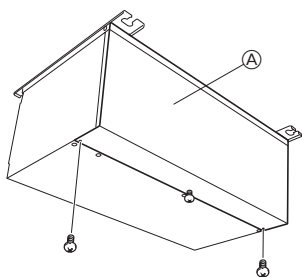

Fig. 9-1
1. Remove the screws in the cover. (Fig. 9-1)